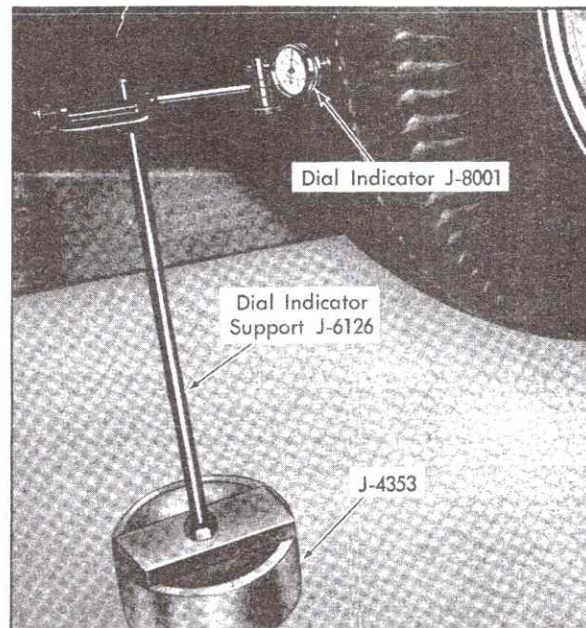

Fig. 10-8 Checking Radial Runout At Tread Face
4. For checking total radial runout at tread face, position knob of Dial Indicator, J-8001, in center of tread face, Fig. 10-8. Position knob so that it will be least affected by tread pattern. Set indicator at zero.